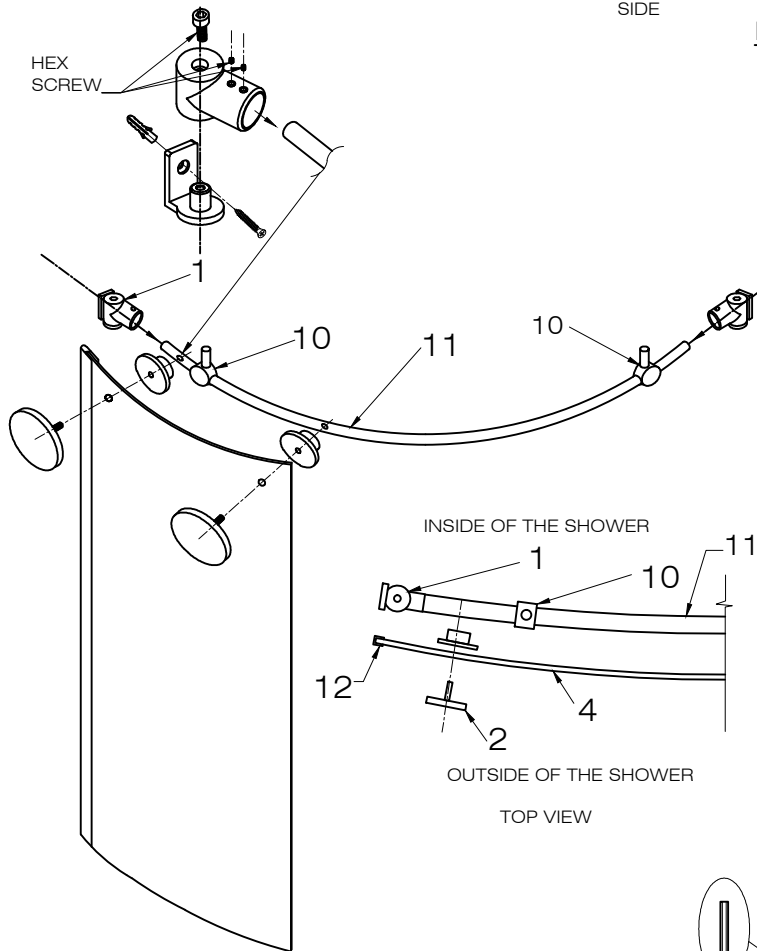

FIG. 4
4. Place the structural rail (#11) inside the wall mount bracket (#1). Tighten the two hex screws on the bracket. [SEE FIG.4] Repeat this step for the other bracket.
6. Screw the fixed panel (#4) to the structural rail (#11) with the fixed panel holders (#2). [SEE FIG.4]